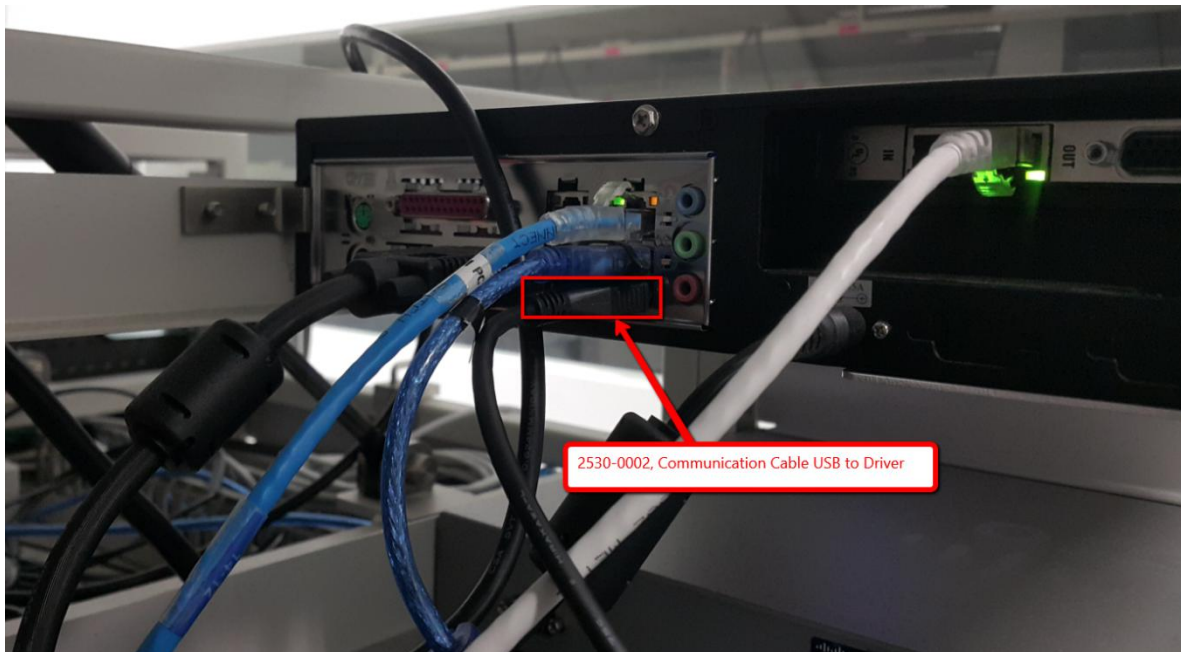
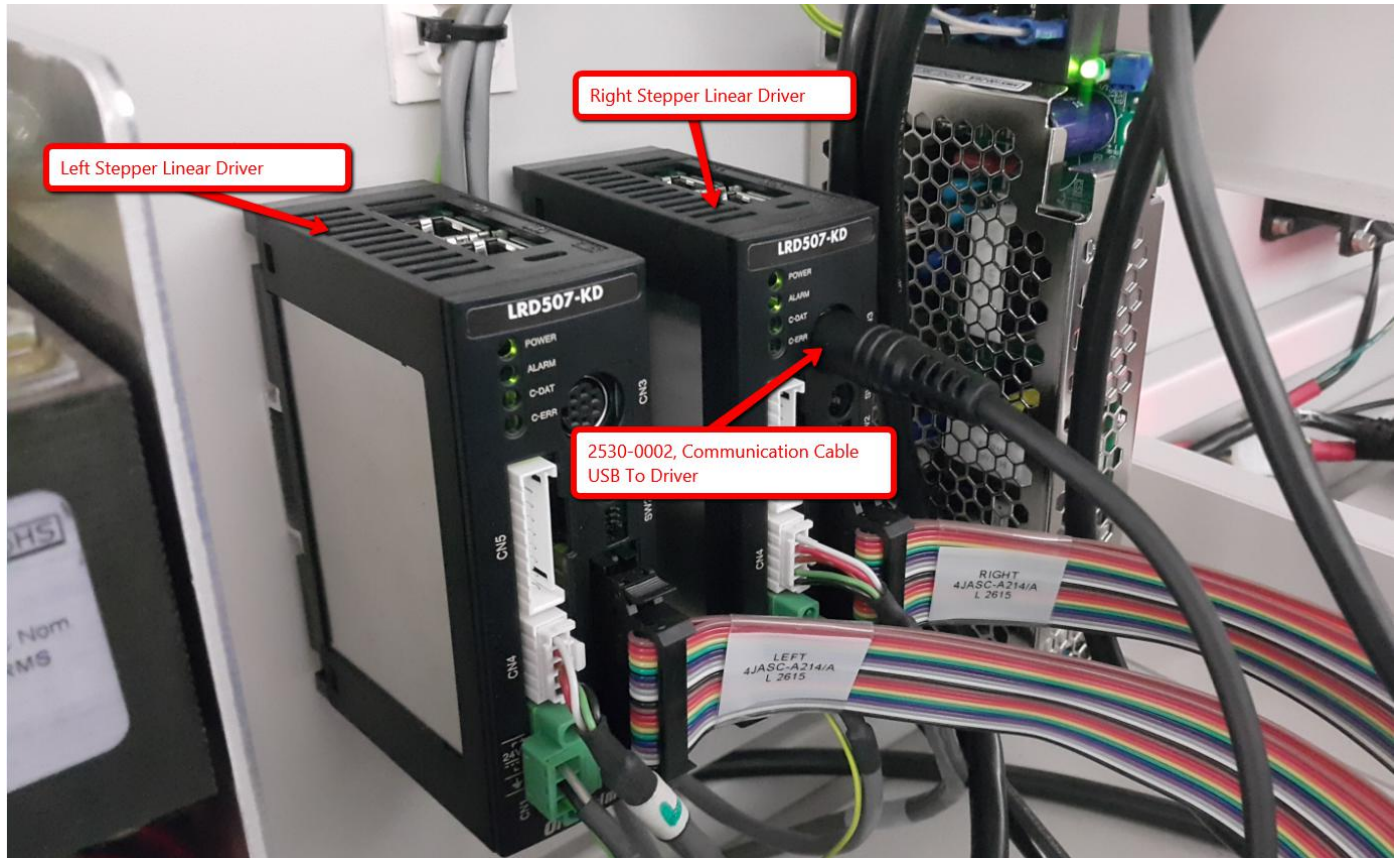

Figure 2 2530-0002 Communication Cable USB to Driver
Figure 3 Right Stepper Linear Motion
2. Connect one end to the Atom PC USB Slot as shown in the Figure 2 and another end to the 2670-0046, Driver Stepper Linear Motion, NEMA 17 (Right Filter Height Sensor) of the Right Filter Height Sensor as shown in the Figure 3.